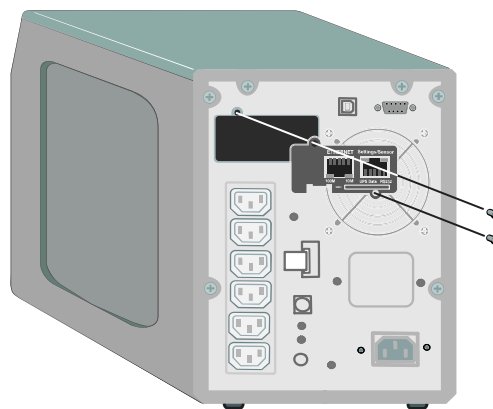

Figure 4. Installing the Card
4. Slide the card into the open slot and secure with the screws removed in Step 1 (see Figure 4).